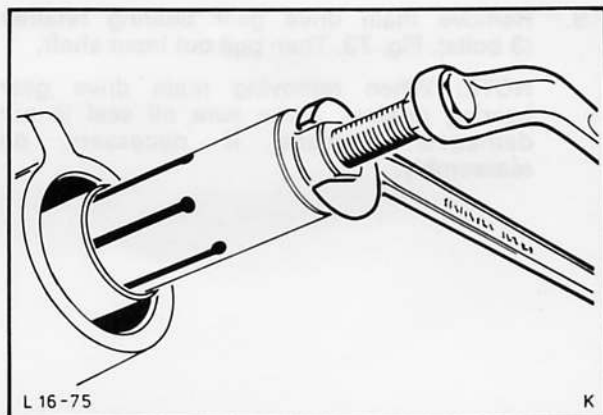

Fig. 70. Extract extension housing bush with Special Tool No. 16-011
6. Extract extension housing bush with Special Tool No. 16-011, Fig. 70.